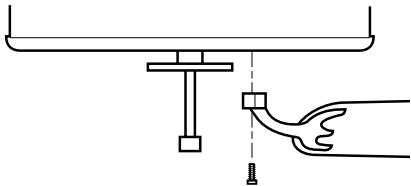

Figure 7d - Attaching Blade Irons to Hub of Fan Assembly
4. For each blade, insert one blade mounting screw through the blade iron as shown in Figure 7d, and attach lightly to the fan. Insert the second blade mounting screw, then securely tighten both mounting screws.